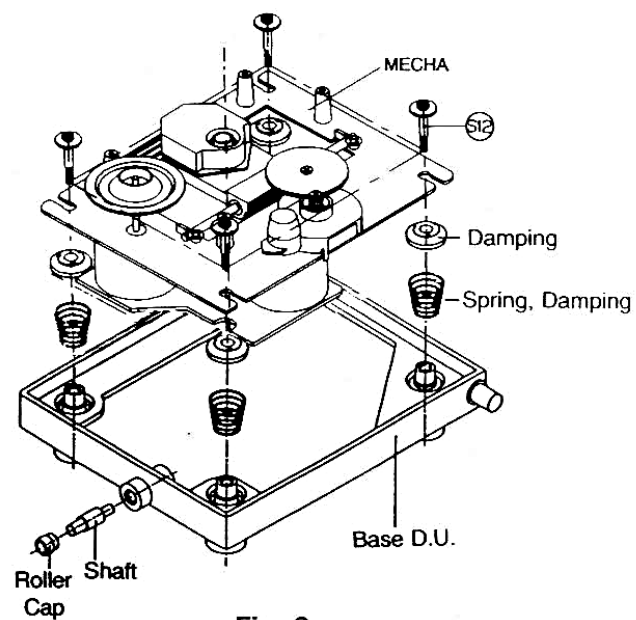

Fig. 6
2. Remove four screws S12 (See Fig. 6).